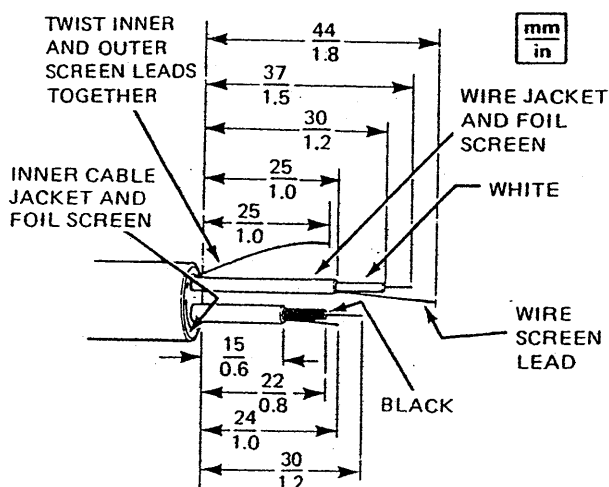

Figure 27.
2. Strip back inner jacket and foil screen as shown in Figure 27. Do not cut inner screen lead.
- Strip back lead jackets and foil screens as shown (Figure 27). Do not cut screen leads.
- Strip insulation from black and white leads as shown (Figure 27).